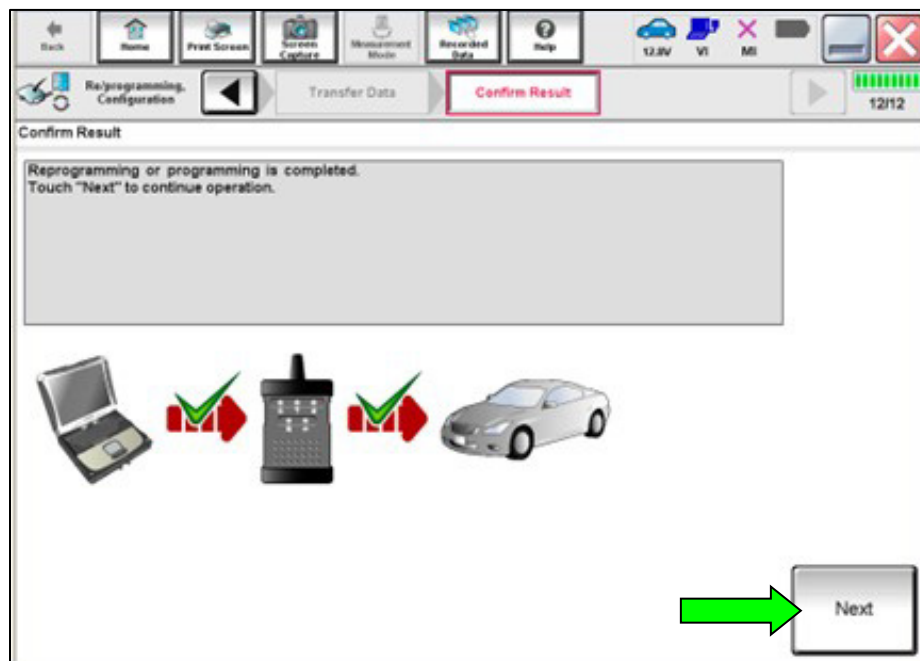

Figure 16
26. Once the screen in Figure 16 displays, the reprogramming is complete. Select **Next**.
HINT: When the screen in Figure 16 displays, HV Battery reprogramming is complete. If the screen in Figure 16 does not display (indicating that reprogramming did not complete), refer to the information on page 27.